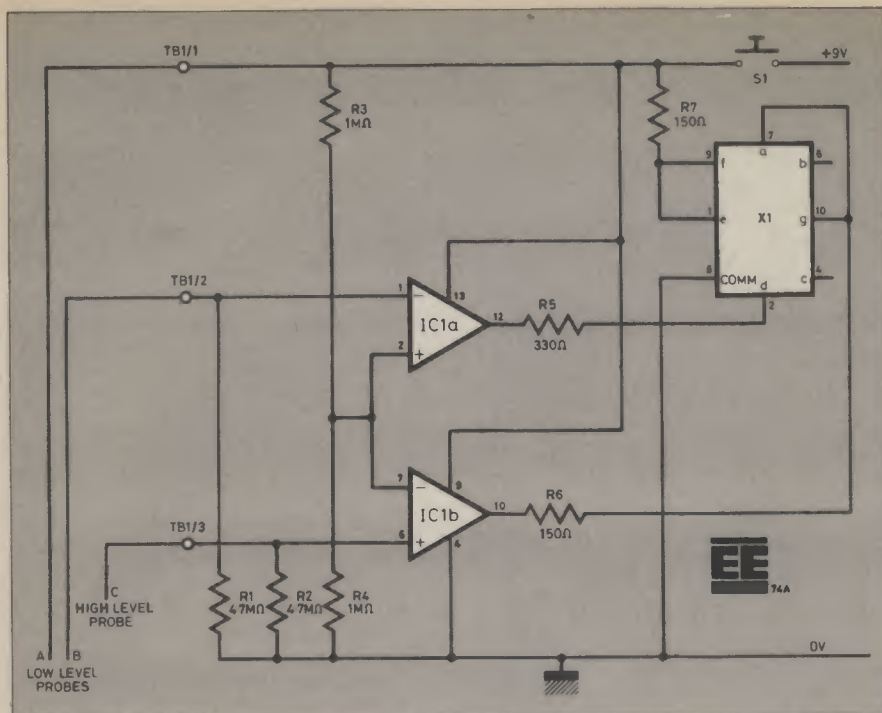

Fig. 1. Circuit diagram of Caravan Dipstick.
The dipstick has three conducting probes—two (A and B) are at a low level and one (C) near the top (see Fig. 1). Probe A is at battery positive voltage.
Referring to Fig. 1, it will be seen that the two op-amps are connected slightly differently. IC1a has its non-inverting input held at one-half battery voltage by means of the potential divider R3 and R4. IC1b shares this potential divider but this time the voltage is applied to the inverting input. R1 and R2 connect the remaining inputs of the op-amps to battery negative. In this way, when S1 is pressed, IC1a will be on and IC1b off. The output from IC1a is connected to segment d while the output from IC1b is connected to segments a and g of the display, X1. Whenever S1 is pressed, segments e and f will light up since they are connected through R7 to the battery positive line. With IC1b on, segments a, e, f and g will therefore light signalling "F". With both op-amps off, only segments e and f will be lit giving "I". With IC1a on, segments e, f, and d will be lit producing "L". As the water level in the container falls, this sequence will be followed.